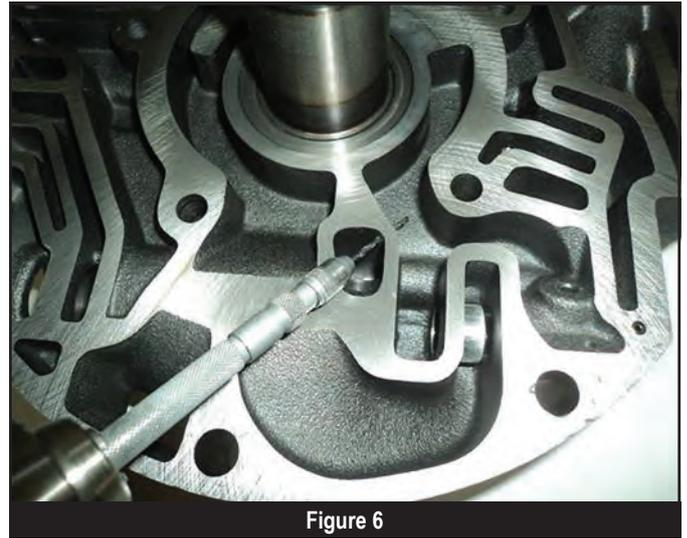

Figure 6
2. Since you've eliminated reverse boost, you'll need to vent the circuit to provide adequate exhaust of torque signal oil that crossleaks into the passage (figure 6).